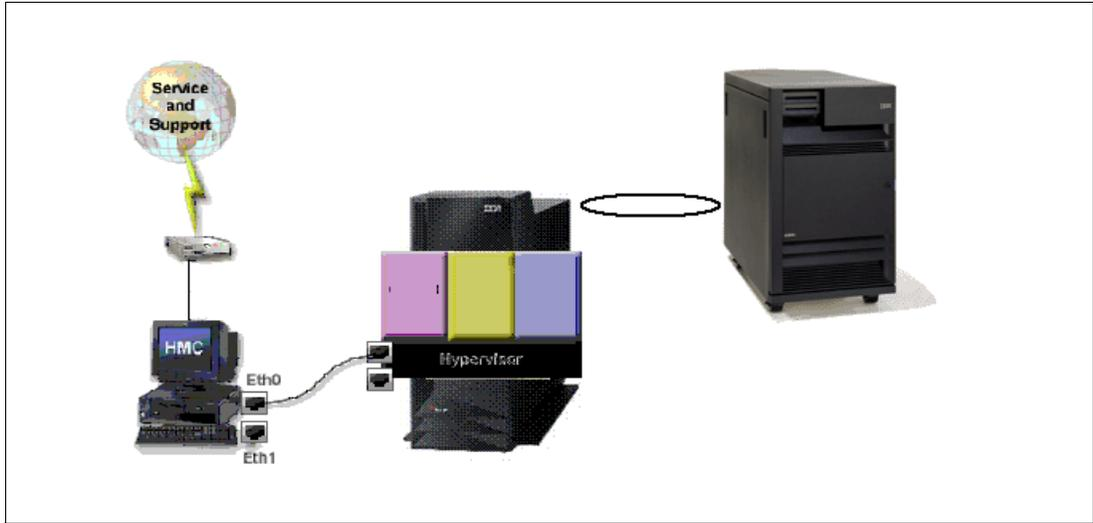

Figure 9-34 Example of HMC attached to 520 System i5 system now with ECS connection
2. The server is then powered down and any new towers are attached by the CSR. The server is once again to the Hypervisor level, and any new towers are assigned new bus numbers. The System i5 system unit and original towers retain their bus numbers. See the example in Figure 9-34.